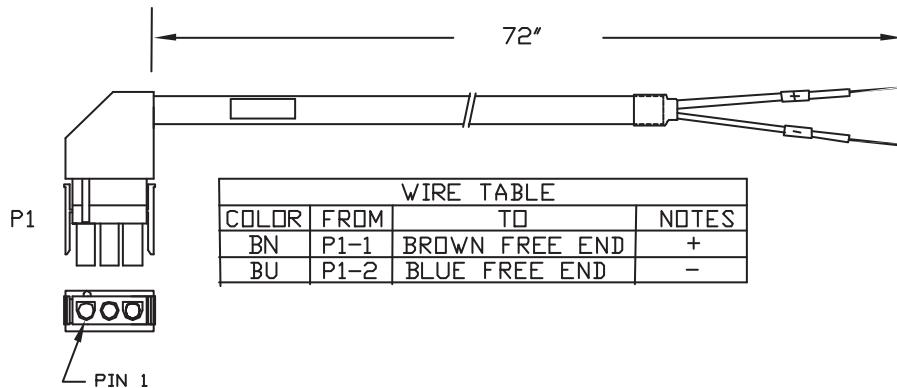

Figure 5-50. P0972RN, FPS400-24 Power Cable to TSC
The FPS400-24 power supply is used with DIN rail modules. Cable P0972RN connects power from the FPS400-24 to the TSC (see Figure 5-50).
4. Insert P1 of the cable P0972RN (see Figure 5-50) into an empty dc output plug of the FPS400-24.